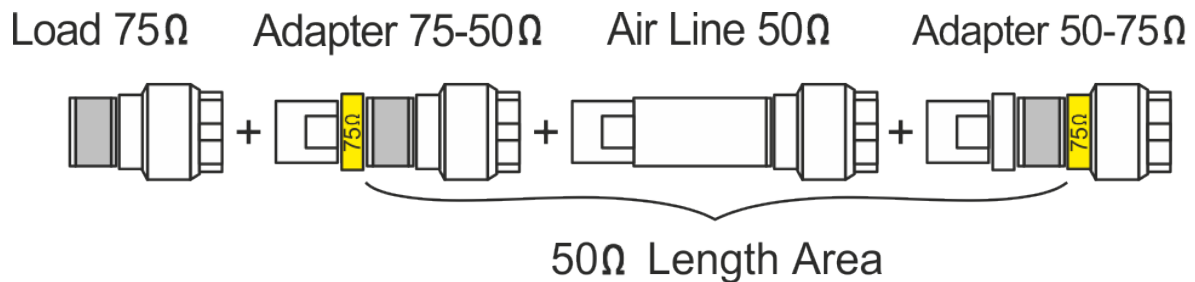

Figure 4 – Stepped line for verification of the Reflection Coefficient Magnitude and Phase Accuracy.
6.3.6.1 The reflection coefficient magnitude and phase accuracy test is performed by comparing the measured and actual values of reflection magnitude and phase of the stepped line, shown in the Fig. 4